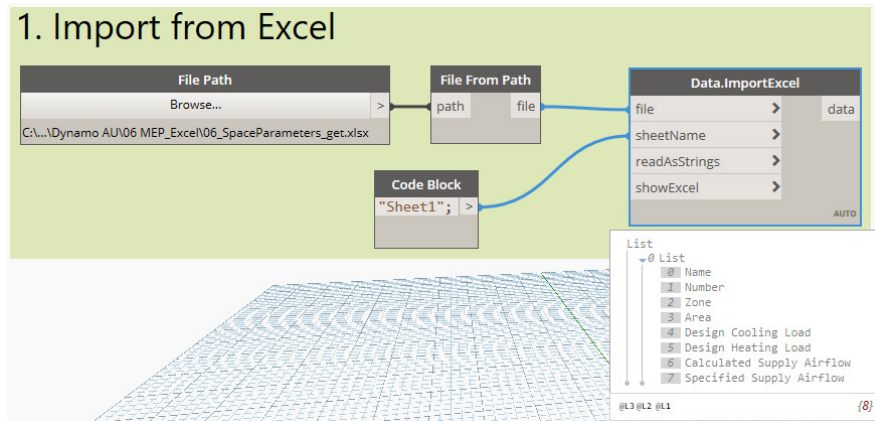

FIGURE 62
12. Select all the nodes and group them. Name the group: **1. Import from Excel** (see Figure 62).